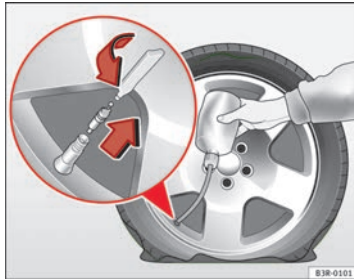

Fig. 187 Repairing a tyre
- Take the valve cap off the tyre valve and use the enclosed valve insert tool to unscrew the valve insert ⇒ Fig. 187.